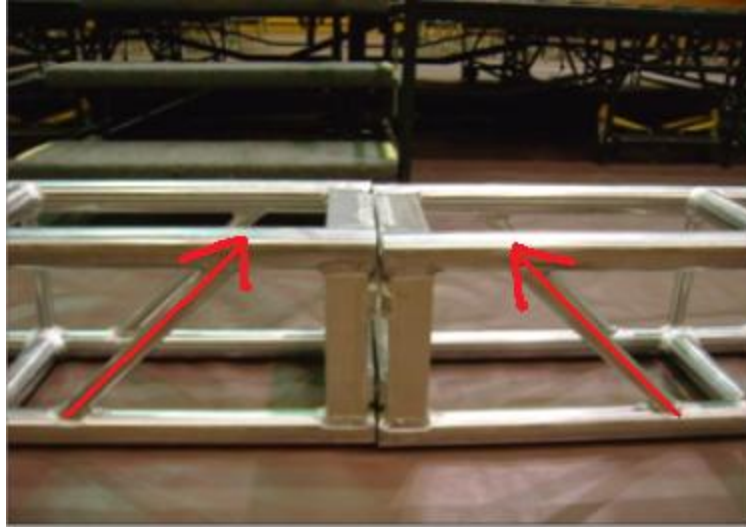

Figure 8: Truss lined up point to point
1. Line up the two center pieces of box truss so that they meet at the center of the stage where you will be raising them. Make sure pieces are lined up point to point (see Figure 8). Then line up the other two pieces (if being used) at the ends of the first two in the same fashion. At the end of this step, you should have a line of truss on the floor where it will eventually be raised. Because this will be the final location of the truss, make sure it is completely straight, otherwise when you place the tower bases in the next step they won't be in the right position.